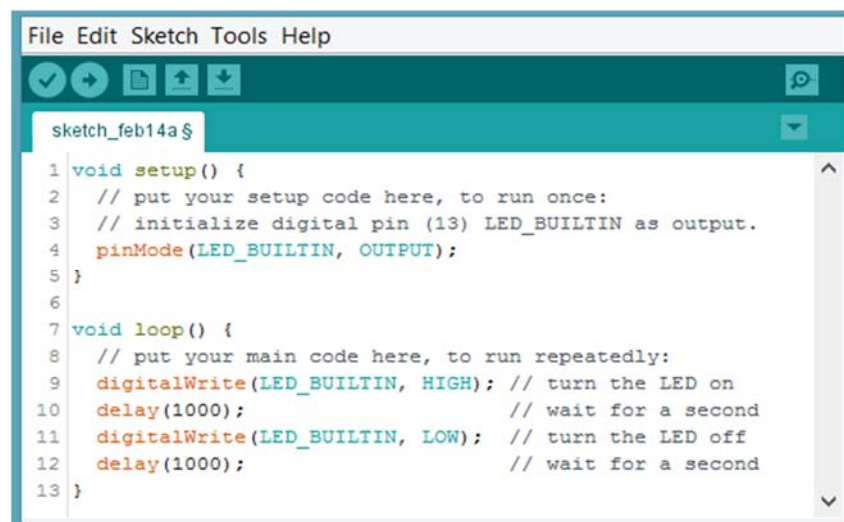

Figure 6: Blink LED program
- 5.1.5 The Uno Board has a built-in LED connected to pin 13. Enter the codes as shown in Figure 6 into the two functions `setup()` and `loop()`. You may choose not to enter those text (i.e. comments) preceded by `/*`.